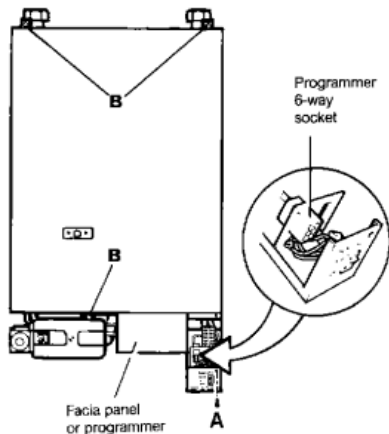

Fig. 15
Ensure that the inner case seal is intact around the boiler chassis and replace the inner case, secure with three screws, 'B' in Fig. 15. Tighten sufficiently to form a seal.
4.1 Dismantling - See Figs. 15, 16, 17 and 18.
2. Unscrew the three inner case screws, 'B' in Fig. 15, two at the top and one at the bottom and remove the inner case.
3. Remove the one screw, 'A' in Fig. 15, above the boiler thermostat switch, securing the wiring centre and lower the wiring centre.
4. If a programmer is fitted, unplug the programmer plug, See Fig. 15, from the wiring centre and slide out the programmer.
7. Carefully remove the spark electrode from the pilot assembly - see note in Fig. 15.